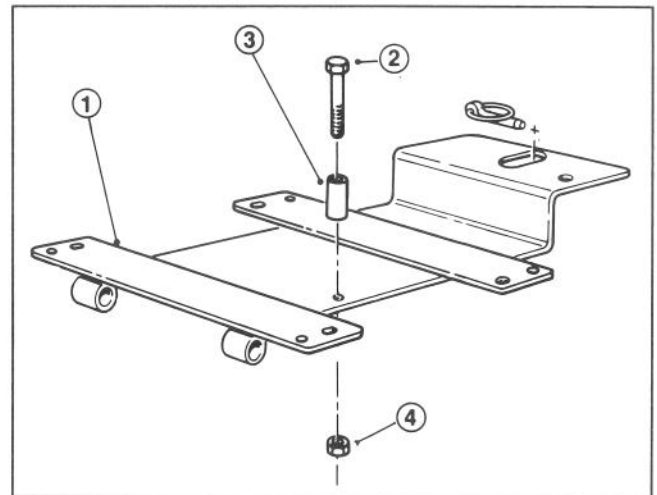

Figure 11
8. Assemble spacer to hex head capscrew, insert capscrew into hole in the seat support and secure capscrew and spacer with a locknut at the bottom of the seat support (Fig. 11).